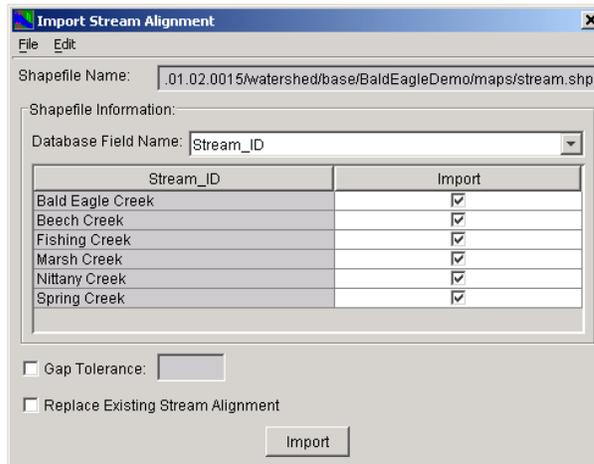

Figure 5.23 Import Stream Alignment Dialog Box
4. The **Import Stream Alignment** dialog box (Figure 5.23) will open.
7. Once the correct shapefile has been chosen, the required attribute is the name of each stream. The program automatically searches for a database field name of **Stream_ID**. If there is not a database field name of **Stream_ID**, then in the **Database Field Name** list, you must select the database field name that contains the names of each stream. In the example shown in Figure 5.23, for the shapefile *stream.shp*, the database field name is *Stream_ID*.
9. **Gap Tolerance** (see Figure 5.23) is used to connect stream elements that have a gap between the end point and the junction with another stream. By default, the **Gap Tolerance** is set to zero (0.0), so ResSim can connect streams to other streams. If you click **Gap Tolerance**, then you need to enter a value larger than zero in the **Gap Tolerance** box, which will allow ResSim to connect streams that might have a larger gap between them.
11. Once everything is set, click **Import**. The stream alignment will be automatically drawn in the display area. From the **File** menu, choose **Close** and the **Import Stream Alignment** dialog box (Figure 5.23) will close.